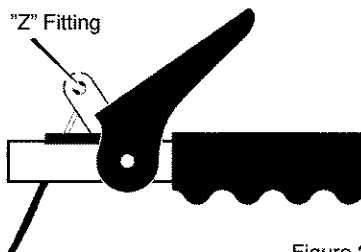

Figure 23
To check for correct adjustment, unhook "Z" fitting at clutch lever (see Figure 23).
5. Disconnect the **"Z" fitting** from the **drive lever** (see Figure 23).
11. Install the **"Z" hook** to the **traction drive lever** (see Figure 23).